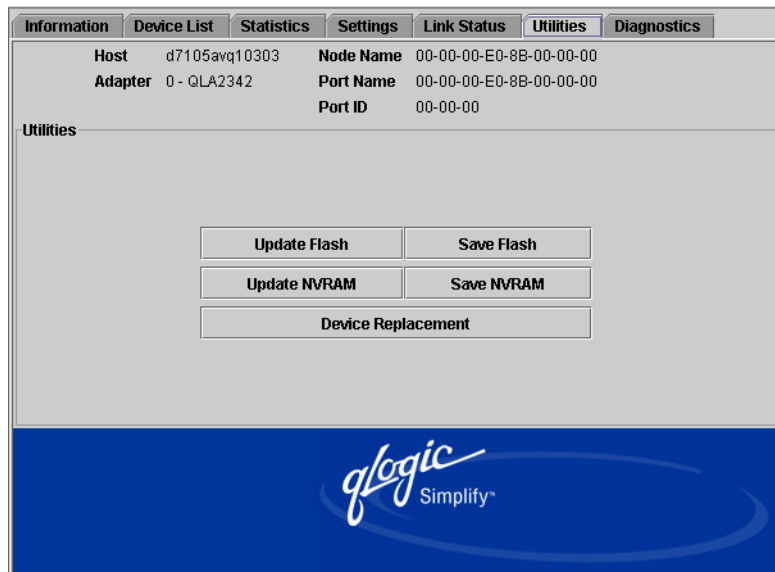

Figure 11-6. Utilities Tabbed Page
- Click the **Utilities** tab. The **Utilities** tabbed page displays (see figure 11-6).